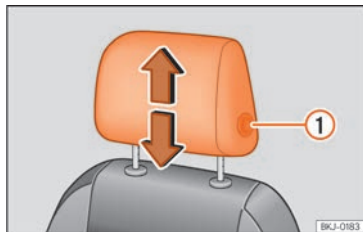
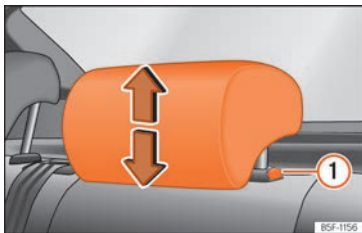

Fig. 66 Front seat: adjusting the head restraint.
Fig. 67 Rear headrest: adjusting the headrest.
- Grab the sides of the head restraints with both hands and push upwards to the desired position. To lower it, repeat the same action, pressing the button on the side ① >>> Fig. 66 , >>> Fig. 67.